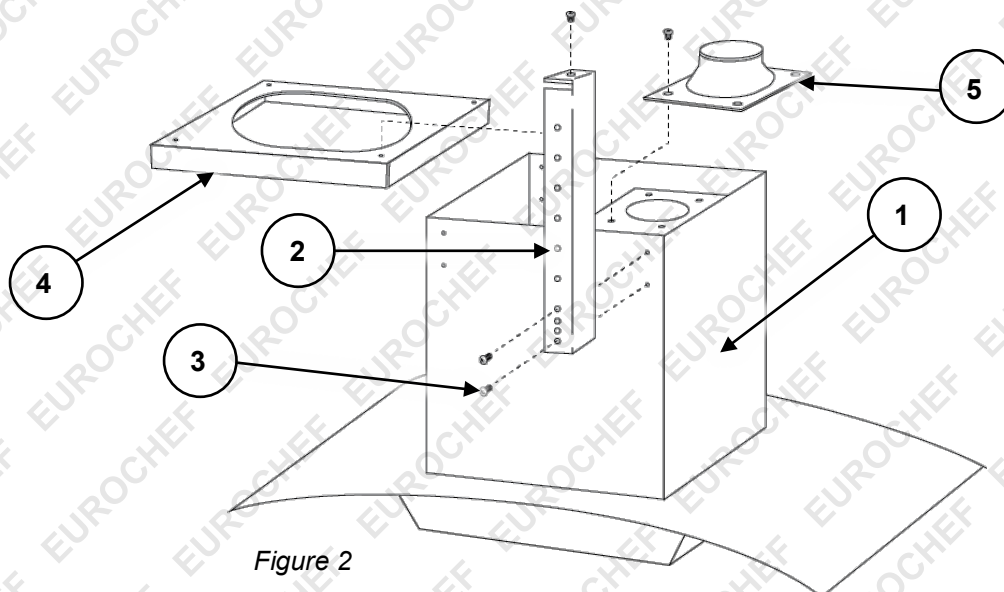

Figure 2
3. Refer to *Figure 2*. Remove the 4 screws holding the rubber exhaust seal in position on the exhaust unit (1). Place the exhaust valve (5) in position over the seal and secure it using the removed screws.
4. Refer to *Figure 2*. Attach the 4 short hanging brackets (2) to the top of the exhaust unit (1) using 8 M5x8 screws (3).
5. Refer to *Figure 2*. Attach the flue support bracket (4) to the top of the short hanging brackets using 4 M5x8 screws. The flue support bracket sits on the inside of the hanging brackets.